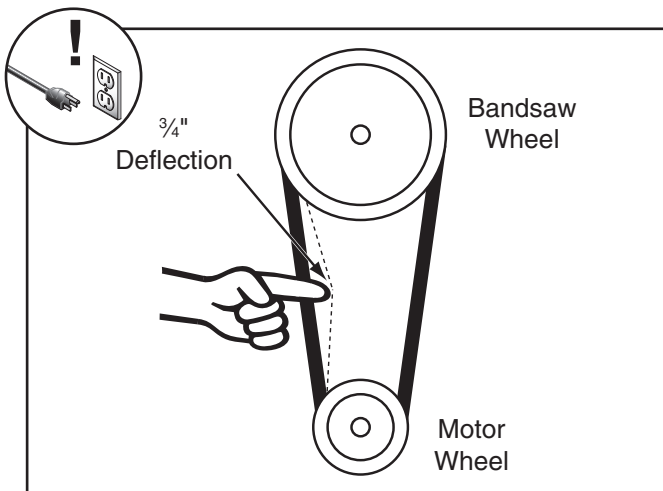

Figure 102. V-belt deflection.
4. Check V-belt tension by applying moderate pressure between the pulleys (see **Figure 102**). If deflection is not approximately $\frac{3}{4}$ ", re-tension the V-belt following the same steps you used when changing blade speeds (refer to **Changing Blade Speed** on **Page 52** if necessary).